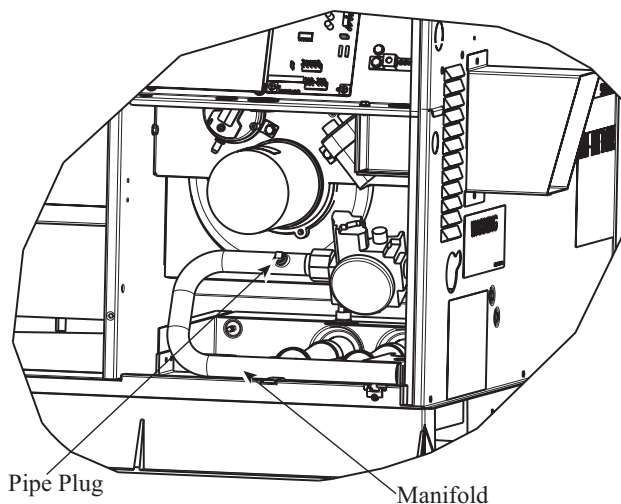

Fig. 12 - Burner Assembly
2. Remove pipe plug on manifold (See Fig. 12) and connect manometer. Turn on gas supply to unit.
4. Turn off gas supply to unit. Remove manometer from pressure tap and replace pipe plug on gas valve. (See Fig. 12.) Turn on gas to unit and check for leaks.